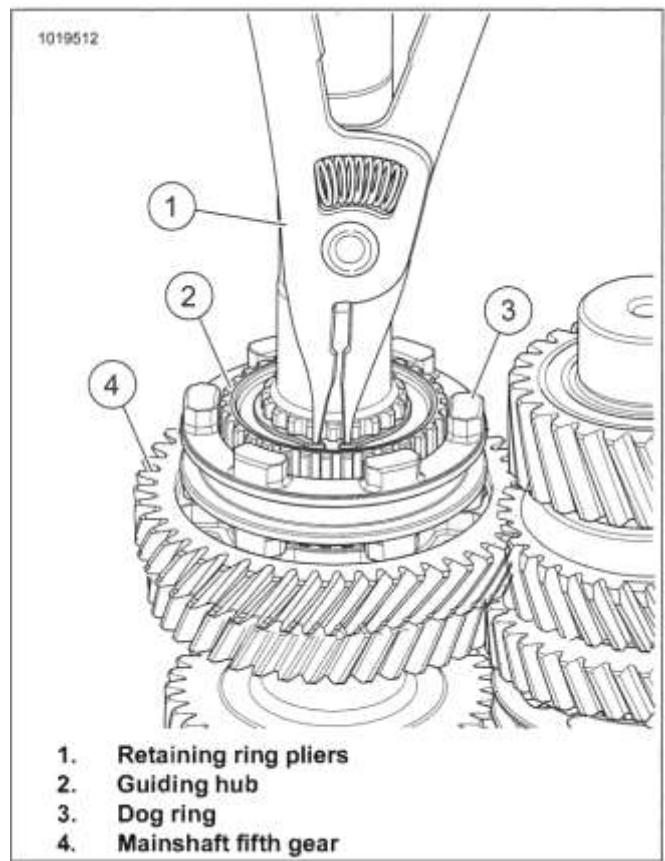

Figure 5-48. Mainshaft Fifth Gear
1. See Figure 5-48. Remove retaining ring.
2. Remove dog ring (3), guiding hub (2), mainshaft fifth gear (4) and bearing.